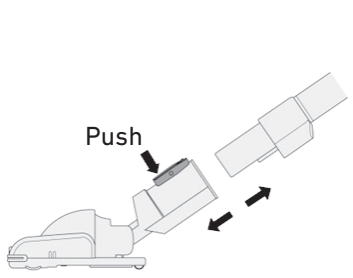

Fig. 16
2. Remove the floor head from the cleaner. (Fig. 16)